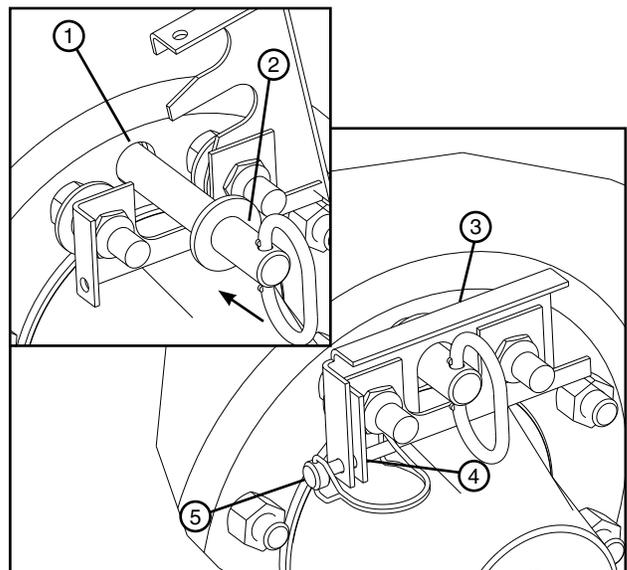

Figure 39-3 1. Hub Torque Pin Receiver 4. Retainer Clip
9. Rotate the tire until the hole in the hub torque pin receiver is aligned with the hole in the axle torque arm. Install the torque pin and close the retainer plate. Secure the retainer plate to the retainer clip with the lynch pin. See figure 39-3.